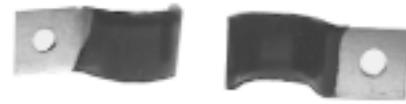

Figure 3: Cable Clamps
Step 4. Secure the cables using the provided cable clamps. (See figure 3)